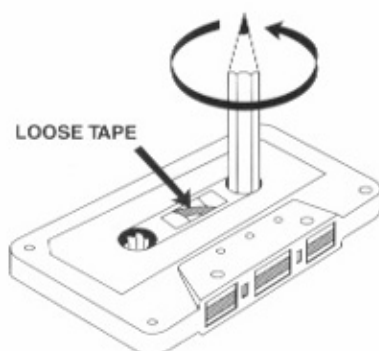

Figure 19. Taking Up Tape Slack.
5. Before inserting a cassette tape into the unit, look through the cassette window to make sure there is no excessive slack (loose turns). If necessary, take up extra slack by inserting a pencil or similar object into the reel hub and rotating it (see Figure 19).